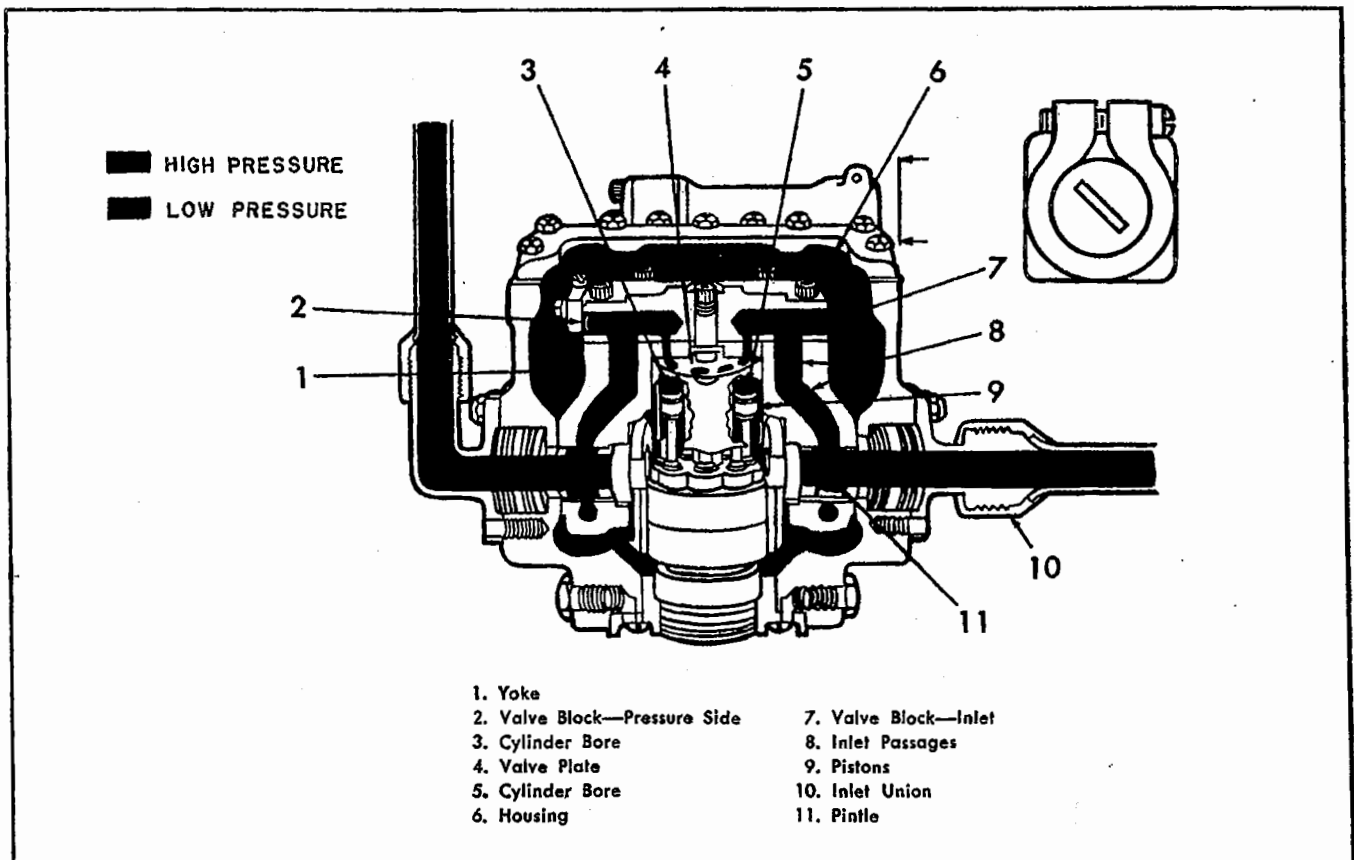

Figure 4-99. Main Hydraulic Pump Flow
4-942. FLOW THROUGH PUMP. (See figure 4-99.) In normal operation, fluid is drawn from the reservoir and enters the suction port of the pump under 12 psi pressure. It is discharged at the pressure required to operate any sub-system up to a maximum of 1500 psi. The operation of the pump is fully automatic and will maintain 1500 psi at zero flow when no sub-systems are being operated. The pump will start to feather (decrease flow) at 1350 psi and will be completely cut out (no flow) at 1500 psi. The maximum speed in this airplane is 3920 rpm and the flow at this speed is 9.65 gpm. Assume that pump is delivering maximum volume and that pump housing (6) has been checked for full level.
a. When the engine is running, the pump draws hydraulic fluid under pressure to the inlet union (10) of the pump. The fluid enters the pump as the pistons move away from the valve plate on the intake stroke. Fluid passes from the inlet union through the pintle (11) and through the inlet passages (8) of the yoke (1) into the inlet side of the valve block (7).
b. Since the pistons (9) are moving away from the valve block and plate at this point, they draw the fluid past the valve plate (4) and into the cylinder bore (5).
c. The rotating parts of the pump are being driven by the airplane engine so that each piston and its respective cylinder bore is constantly changing position. As each cylinder fills with fluid, it turns 180°, at the end of which time the piston begins its pressure stroke. The fluid is driven from the cylinder bore (3) through the opposite side of the valve plate (4) and into the pressure side of the valve block (2). It then flows into the outlet pintle and thence to the outlet elbow which connects to the main pressure line.
f. To regulate the pressure control valve the pump should be turning at approximately 3600 rpm and fluid temperature should be at about 50°C (120°F). Close the volume control valve in the outlet line. Loosen the lock screw at the pressure control adjusting screw. Then turn the pressure control adjusting screw (see view A-A on figure 4-99) in to raise, or out to lower, until the reading on the test gage indicates the correct pressure. Tighten the locking screw. Open the volume control valve slowly while watching the pressure gage. The pressure hand will flutter slightly when the pressure drops to the cut-in point of the pressure control. The pressure control setting for cut-out is 1500 psi plus or minus 25 psi.